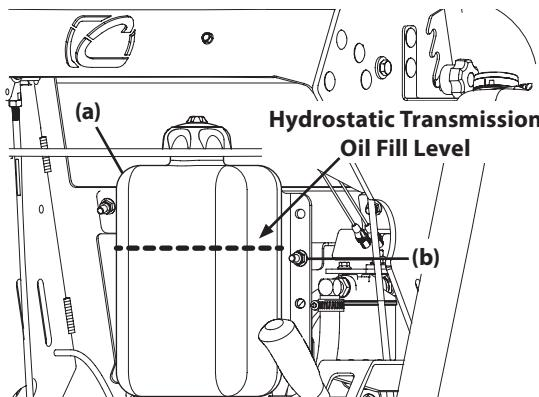

Figure 22
2. Ensure the hydrostatic transmission oil reservoir level is just above the upper reservoir mounting bolts (b) as shown in Figure 22.
- Add hydrostatic transmission oil until the level is even with the upper reservoir mounting bolts. See Figure 22.